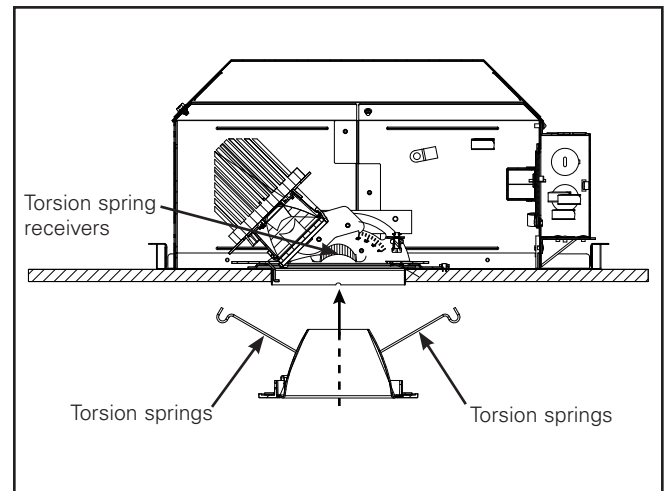

Figure 9
6. Once the fixture is installed and the final position is locked in, insert the trim into the collar by pinching the torsion springs together (Figure 9) and insert them into the torsion spring receivers.